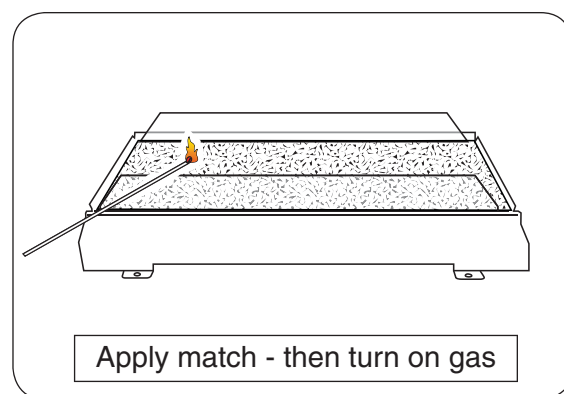

Fig. 13-1
3. Lay a lighted long-stem match on the center of the top burner (**do not hold the match in your hand**) or use a lighted long-necked butane lighter (Fig. 13-1).